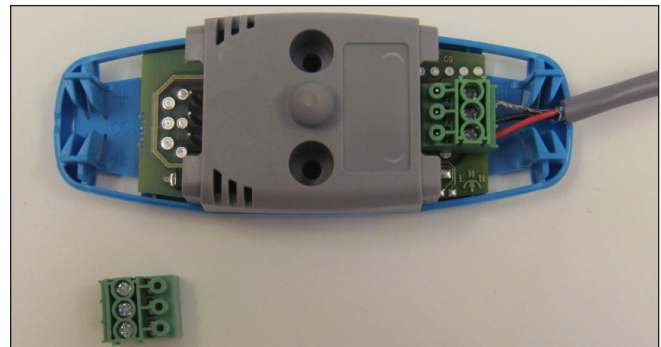

Figure 11. EAFR-01 sensor connection step 5.
5. Attach the connector back to the sensor PCB (see Figure 11).